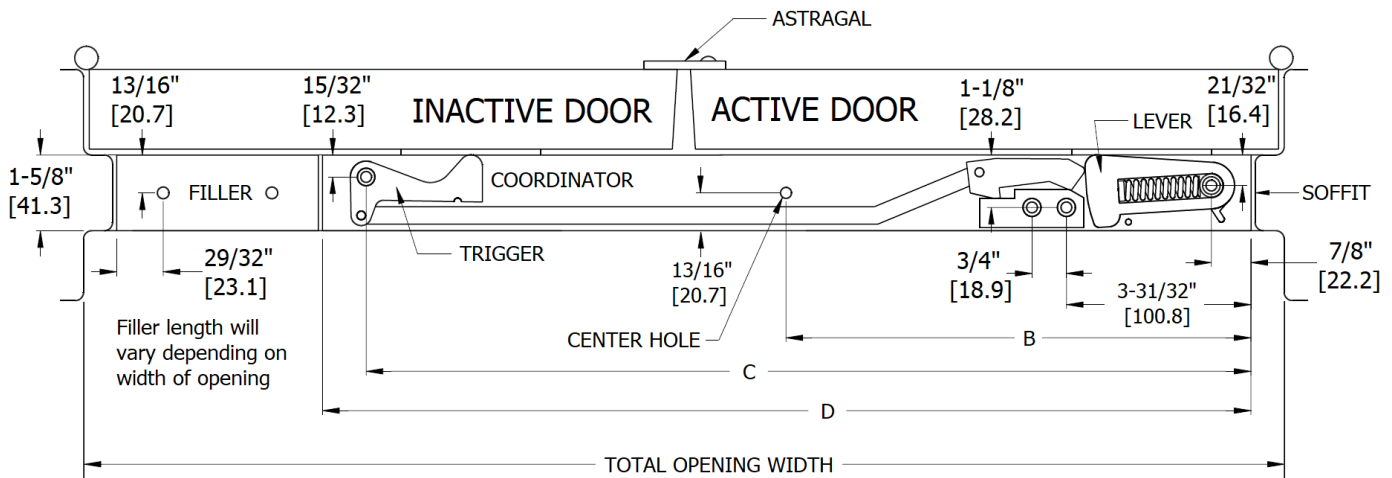

Figure 3: Top View
- Place the Coordinator against Soffit and Door Coordinator Strikes as seen in Figure 3.